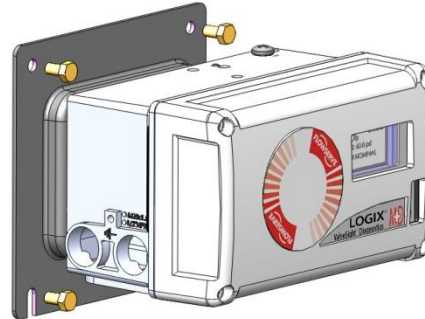

Figure 13: MaxFlo Assembly
- Slide the take-off arm onto the shaft. Insert the screw with star washer through the take-off arm and add the second star washer and nut. Tighten nut with socket so arm is lightly snug on the shaft but still able to rotate. This will be tightened after linkage is correctly oriented. Refer to figures 13 through 16.